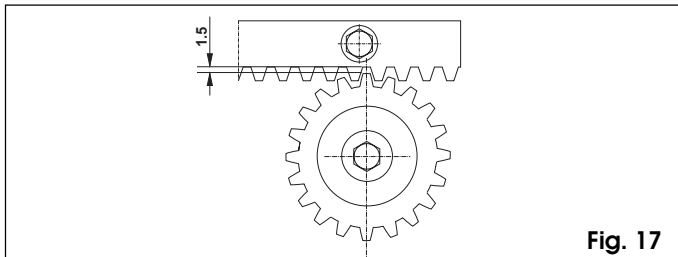

Fig. 17
**Important:** Do not weld the rack elements either to the spacers or to each other (for steel rack only). After installing the rack, lower the position of the gear motor by adjusting the feet (Fig. 17) by about 1.5 mm to ensure correct meshing with the pinion.